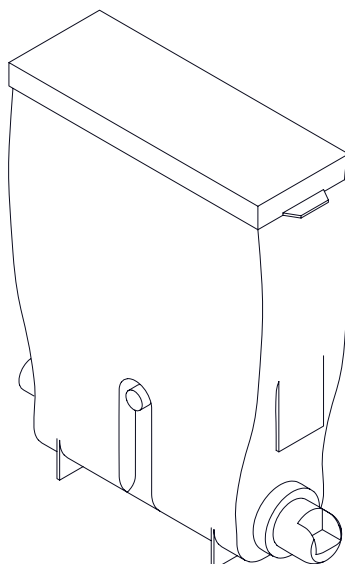

Fig.5.5b
- Containers for ingredients Chocolate and Milk (see fig.5.5b)